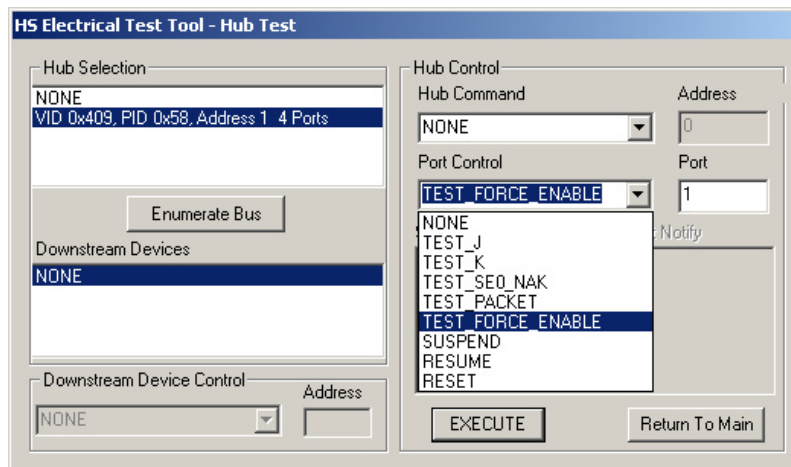

Figure 18. Force-Enable Hub Downstream Port
- e. Enter the port number and click [EXECUTE] once and ensure the operation is successful in the Status Window. (Figure 18)